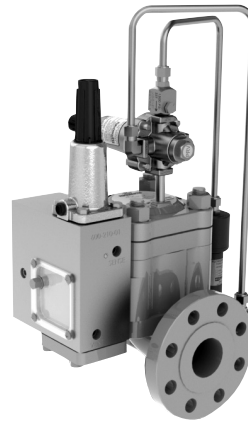

Figure 1 – 2” Flowgrid regulator with an integrated Shutoff Valve and a Series 50/51 single function controller providing under or over pressure protection.
- 1) The single function controller (Figure 1) provides over or under pressure protection.